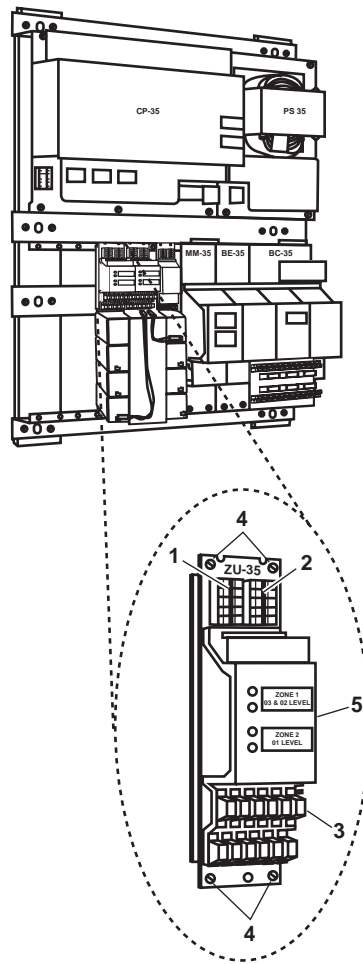

Figure 3. Dual Zone Module ZU-35TS Replacement
2. Label and disconnect the electrical wiring from P1 (figure 3, item 1), P2 (figure 3, item 2), and the terminal block (figure 3, item 3).
3. Remove the four screws (figure 3, item 4) that secure the dual zone module ZU-35TS (figure 3, item 5), and remove it from the enclosure.
1. Position the dual zone module ZU-35TS (figure 3, item 5) in the enclosure and secure it in place with the four screws (figure 3, item 4).
2. Connect the electrical wiring to P1 (figure 3, item 1), P2 (figure 3, item 2), and the terminal block (figure 3, item 3) using the labels from step 2 of Removal as a guide. Remove the labels.